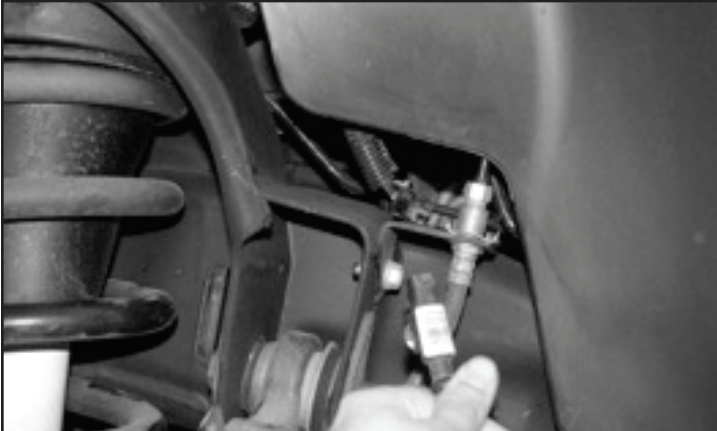

FIGURE 1 - STEP 3
3. Follow the wheel speed sensor wire from frame rail plug. Separate the wire from the upper control arm. **SEE FIGURE 1**